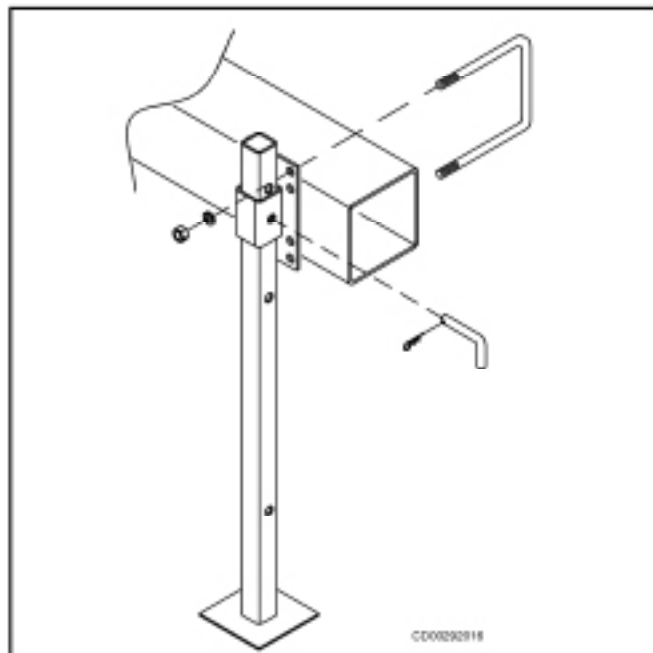

Figure 34 Mounting Parking Stand
1. Install front parking stands at each end of the toolbar center section as shown in Figure 34.